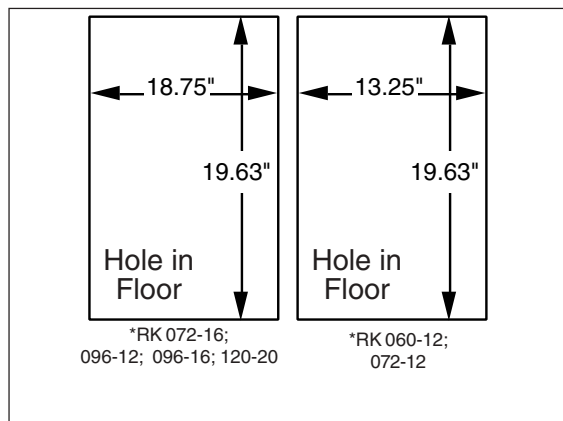

Figure 4. Opening in Wood Floor
1. Cut and frame the hole in the floor per the dimensions in Figure 4.
This furnace may be installed directly on combustible wood flooring or supports, if type "B-1" vent pipe is used (See Figure 4). It is recommended for further reduction of fire hazard that cement board or sheet metal be placed between the furnace and the combustible floor and extend 12 inches beyond the front of the louvered door.